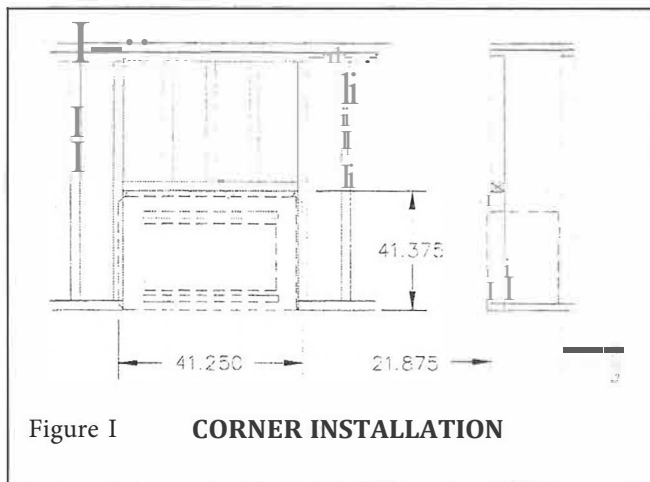

Figure 1 CORNER INSTALLATION
- 1.) The location must allow for proper clearances (see figures 1 & 2).
STEP 1: Frame the opening for the fireplace using the dimensions shown in figures 1 & 2.